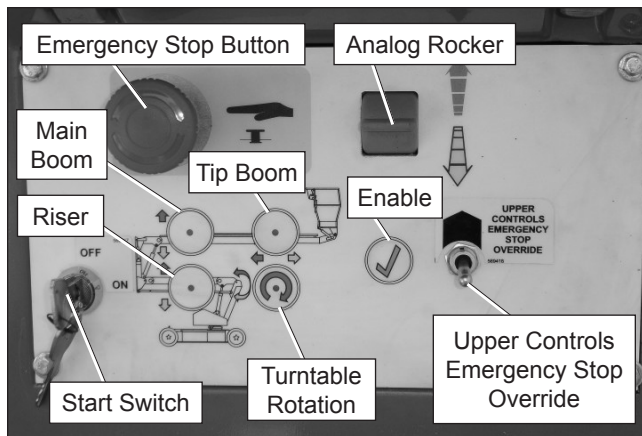
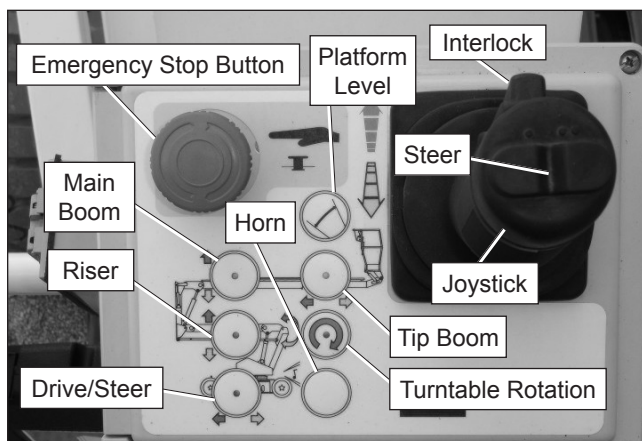

Figure 9.1 – Lower Controls
Figure 9.2 – Upper Controls
1. Twist the emergency stop button clockwise at both the lower (refer to Figure 9.1) and upper controls (refer to Figure 9.2).
1. Twist the emergency stop button clockwise at the lower controls (refer to Figure 9.1), insert the key into the start switch and turn the switch to the on position.
3. Twist the emergency stop button clockwise at the upper controls (refer to Figure 9.2).